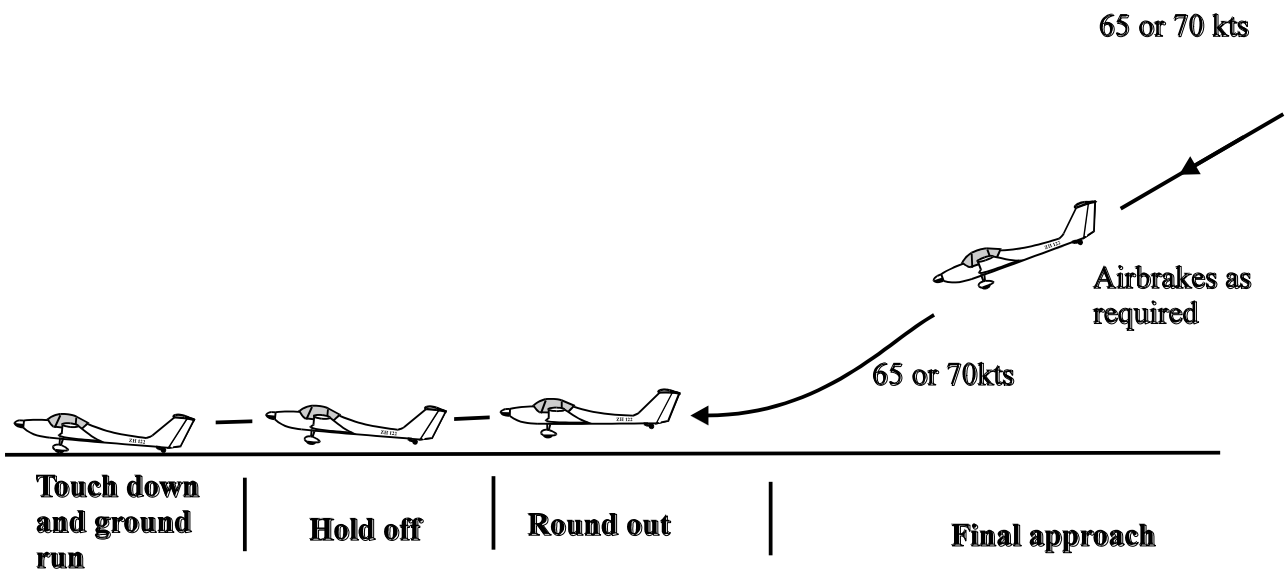

Fig 8. Approach and Landing.
2. **The approach and landing.** The approach and landing can be split up into four manageable parts, the approach, the round out, the hold off and the ground run (as shown in fig 8).